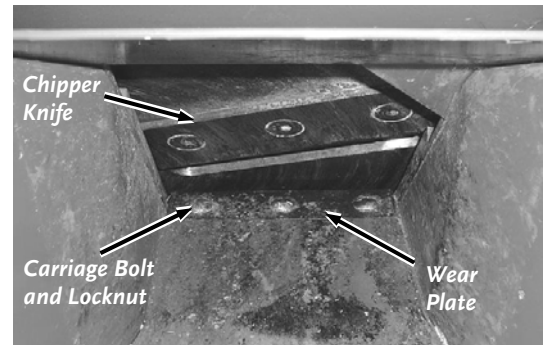

Figure 38
2. Remove the three Locknuts and Carriage Bolts that attach the Wear Plate to the Chipper Assembly with a 7/16" wrench and then remove the Wear Plate (**Figure 38**).